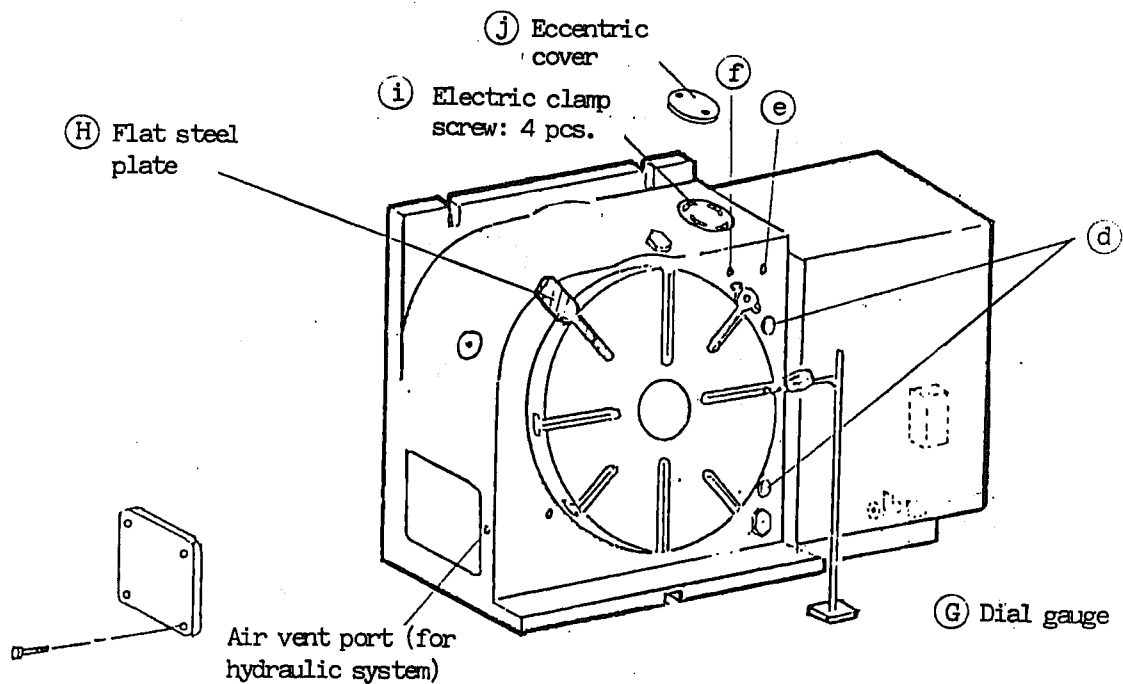

Fig. 1
- 7) Here, reset the dial guage (G) as shown in Fig.1, loosen the bolt (h) and tighten the bolt (g) clockwise, then the eccentric shaft will turn in the direction of arrow. Thus, the backlash between the worm wheel and the worm screw will get near to 0(zero). Adjust the backlash to 10~15 microns by using the bolts (h) and (g) watching the deflection of the dial guage (G) while shaking the outer periphery of CNC rotary table, then securely lock them again.
Be sure to apply each sealing agent (shown in Fig. 1) to its corresponding part assembling the worm screw, so that no ingress of coolant etc. is permitted.